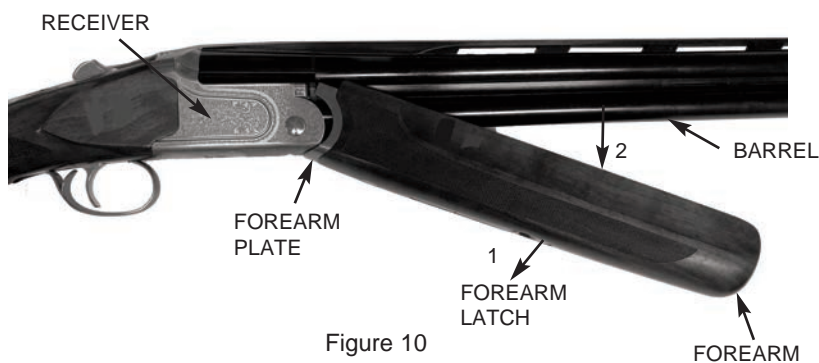

Figure 10
1. To disassemble the barrels from the stock/receiver assembly you must first remove the forearm. To remove the forearm, lift the forearm latch and pull the forearm away from the barrels (Figure 10).